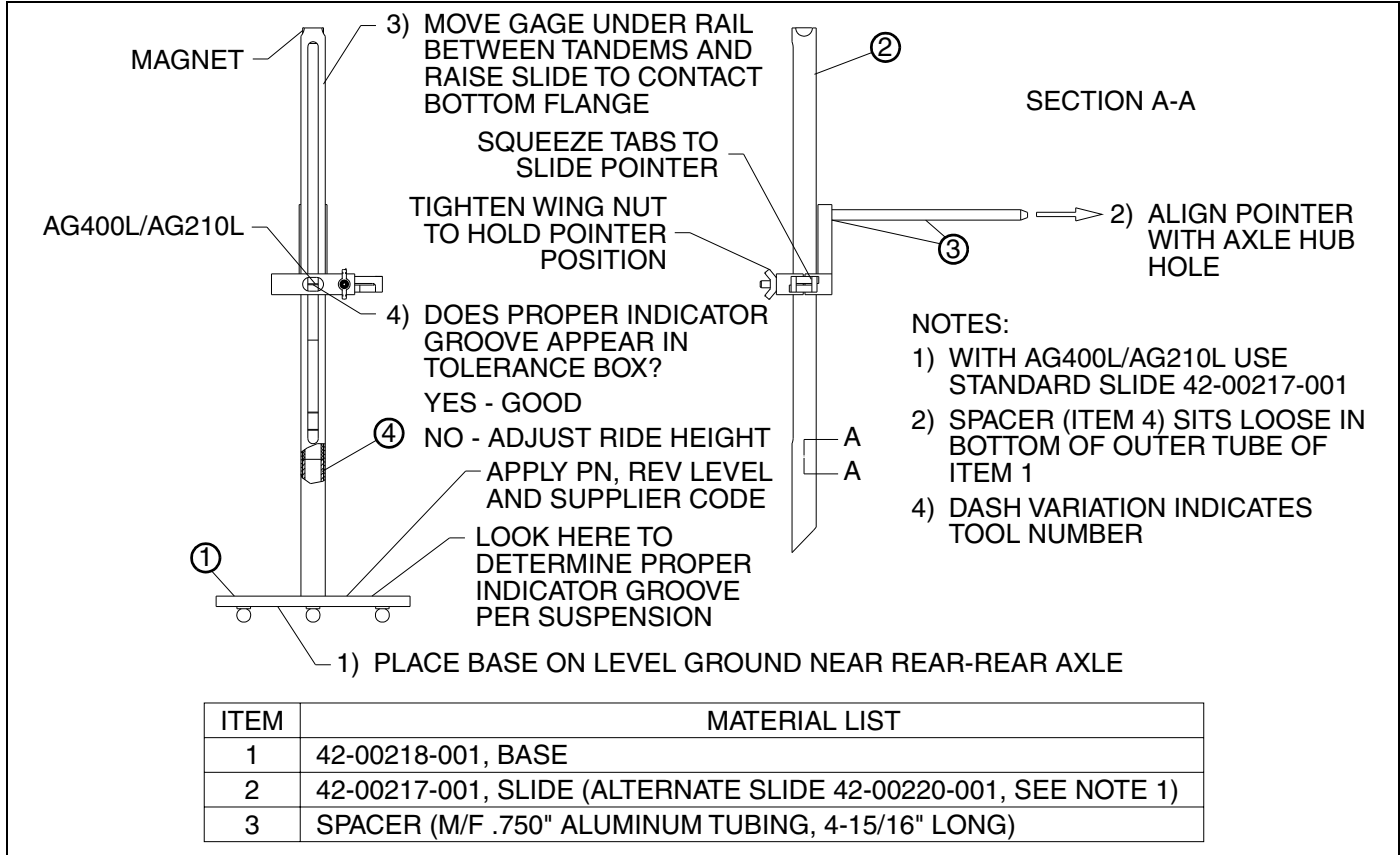
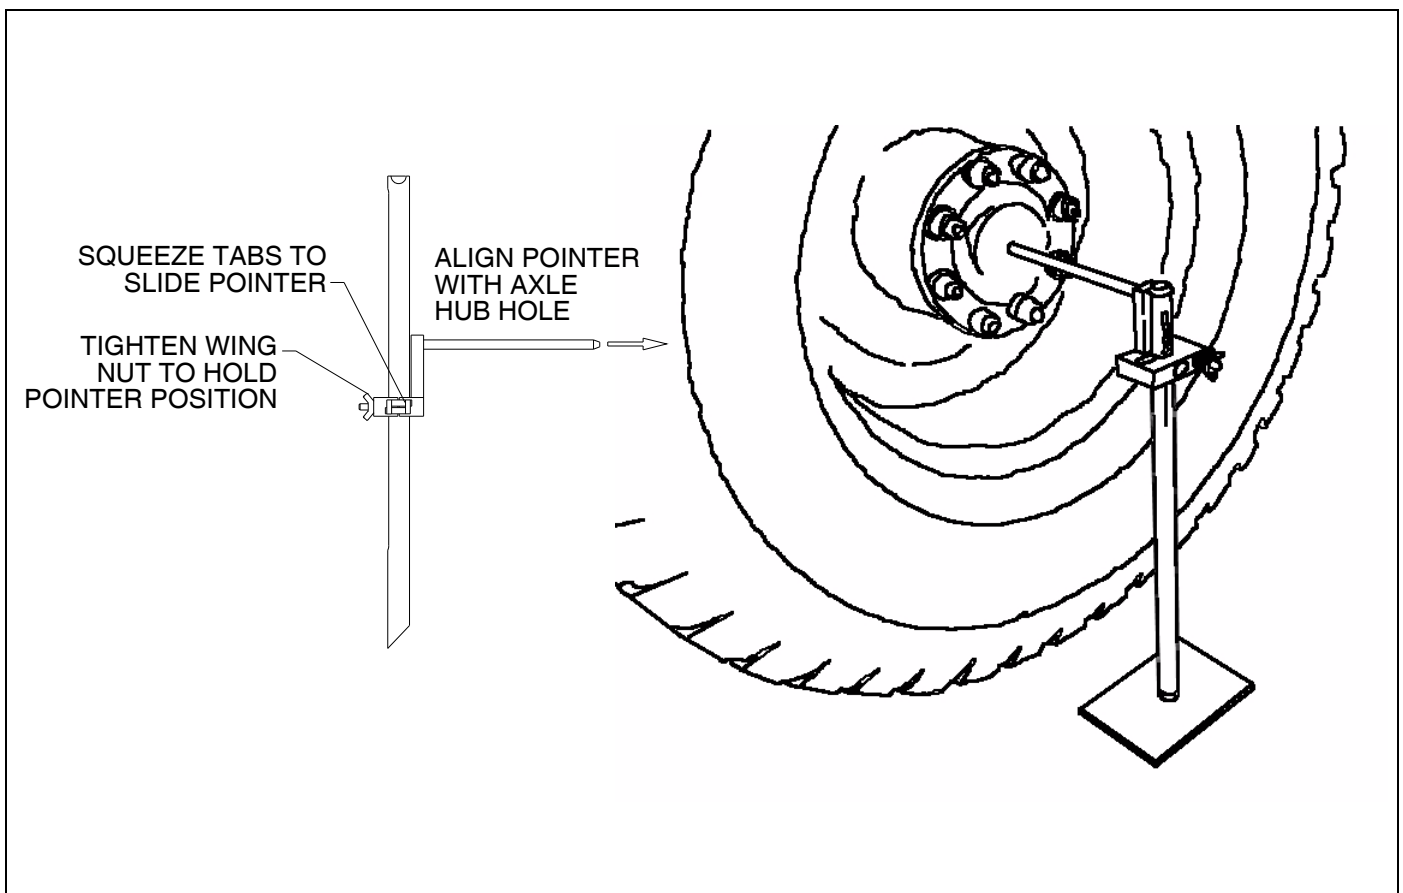

Figure 1-3 Illustration of Ride Height Gauge
Figure 1-4 Illustration of Aligning The Pointer of a Ride Height Gauge
5. Ensure that the ride height gauge has the correct slide installed for the suspension on the vehicle (see "NOTES" in Figure 1-3).
6. Place the ride height gauge near the rearmost axle such that the base is on level ground (see Figure 1-3 and Figure 1-4).
7. Align the pointer of the gauge with the axle hub hole (see Figure 1-4).